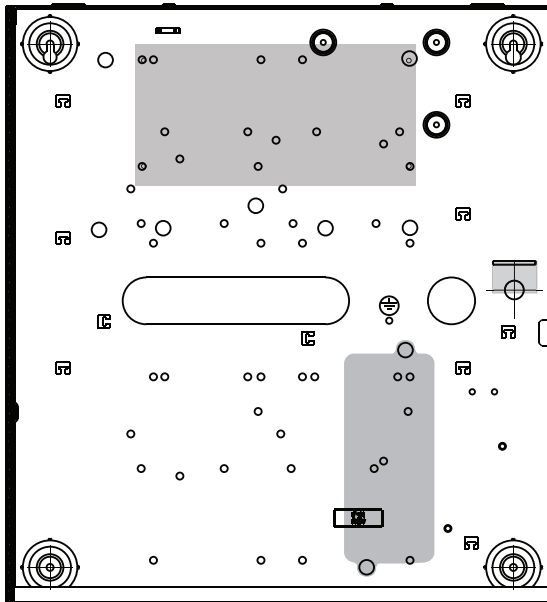

Figure 2-4 HSM3304CX/HSM3350 Mounted in HSC3010C, HSC3010CR, HSC3030CAR Enclosures
1. Ensure all wires are secured to the enclosure using cable ties. See figures 2-4, 2-5, and 2-6 for locations.
2. Route the AC line into the enclosure through the provided opening, as indicated in figure 2-4.
1. If mounting the power supply inside the cabinet, attach it as per figure 2-4 using supplied hardware. Use cable ties to secure the DC wires to the enclosure.
2. Install the grommet strip (available separately – p/n 57000933) into the opening on back of cabinet as indicated in figure 2-4. Route the AC cable out of the enclosure through the opening indicated in the diagram.
3. If mounting the power supply outside the enclosure, attach it to the wall using suitable hardware. Route DC wires into the enclosure and secure them with cable ties. See figure 2-4 for approved wire length/gauge.